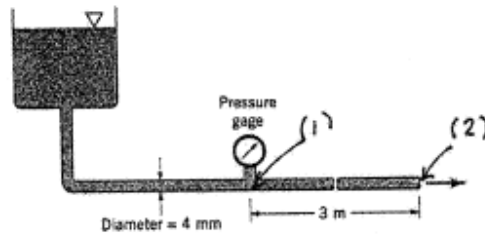

FIGURE P6.103
6.103 A simple flow system to be used for steady flow tests consists of a constant head tank connected to a length of 4-mm-diameter tubing as shown in Fig. P6.103. The liquid has a viscosity of $0.015 \text{ N} \cdot \text{s}/\text{m}^2$, a density of $1200 \text{ kg}/\text{m}^3$, and discharges into the atmosphere with a mean velocity of 2 m/s . (a) Verify that the flow will be laminar. (b) The flow is fully developed in the last 3 m of the tube. What is the pressure at the pressure gage? (c) What is the magnitude of the wall shearing stress, τ_{rz} , in the fully developed region?